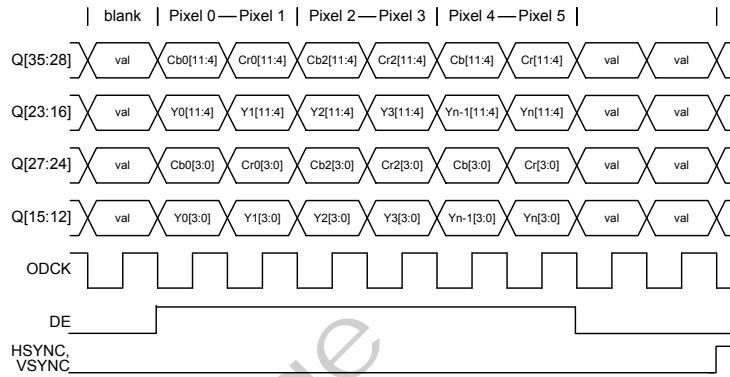

Figure 27. YC Timing Diagram
The YC 4:2:2 formats output one pixel for every pixel clock period. A luminance (Y) value is output for every pixel, but the chrominance values (Cb and Cr) are sent over two pixels. Pixel data can be 24-bit, 20-bit or 16-bit. HSYNC and VSYNC are output explicitly on their own pins. The DE high time must contain an even number of pixel clocks. Figure 27 shows timings with OCLKDIV = 0 and OCKINV = 1.